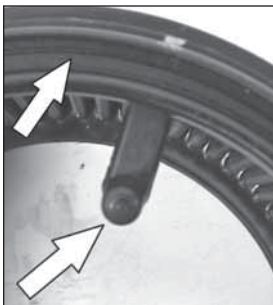
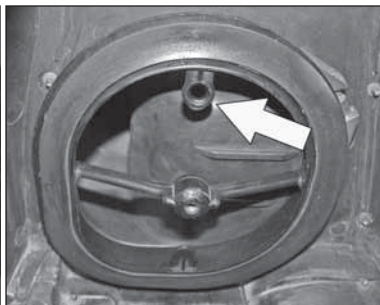

Fig. 1
Fig. 2
- b. Hold the base of the filter upside down and apply an even bead of grease, between the two bump seals and around the base of the filter. (Fig. 1)
- 5) Install the base of the filter into the air box and against the backing plate by lining up the locator tab on the air filter. (Fig. 1 & Fig. 2)